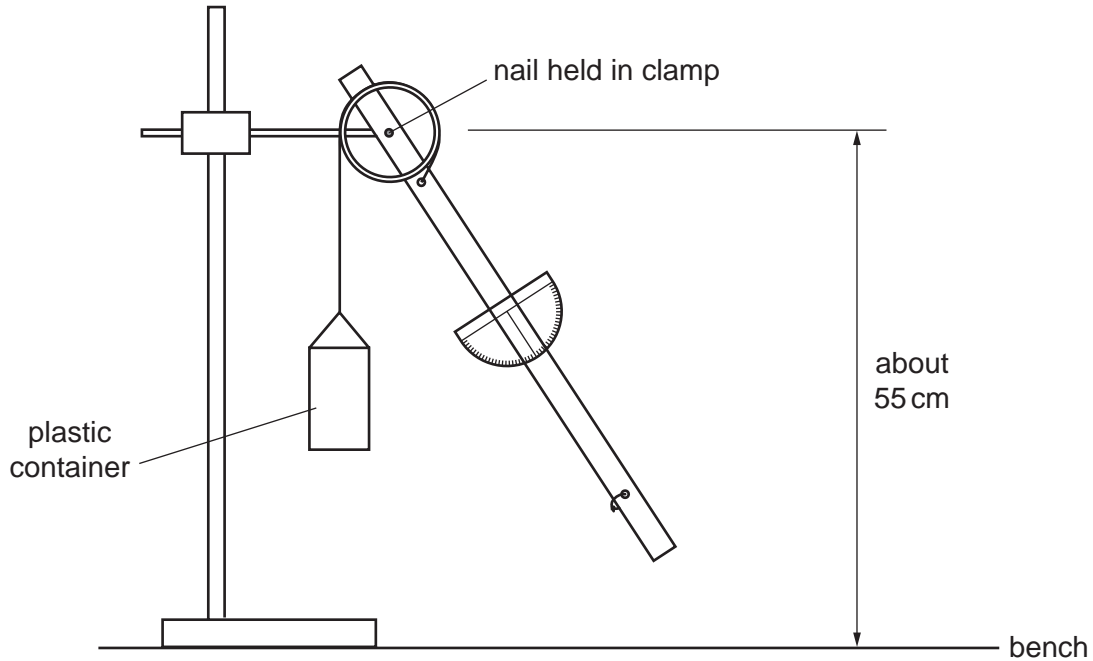

Fig. 1.3
- Assemble the apparatus as shown in Fig. 1.3. Check that the wooden strip can pivot freely.